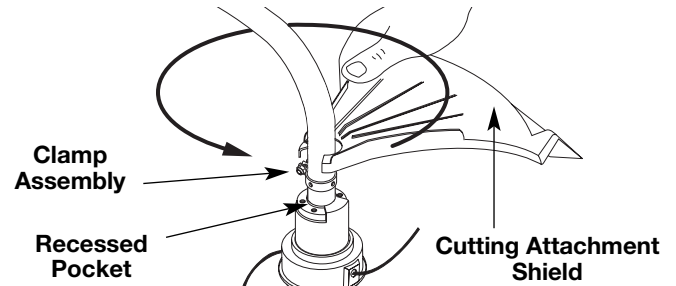

Fig. 3
1. Place the cutting attachment shield onto the shaft housing above the clamp assembly (Fig. 3).
2. Push the cutting attachment shield down to the top of the cutting attachment assembly and then rotate the cutting attachment shield until the screw holes align and the guard fits into the recessed pocket (Fig. 3).